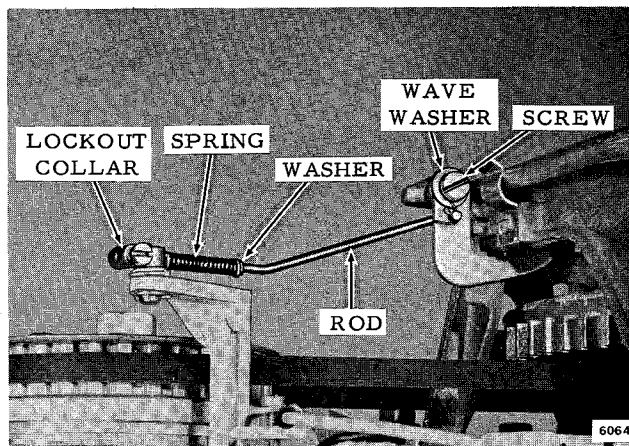

Figure 8-3. Starter Lock-Out Lever Mechanism
A lock-out lever linked to the gear shift prevents manual starter engagement while in forward or reverse gear. See Figure 8-3.
- Remove screw and wave washer to detach starter lock-out linkage from starter housing. See Figure 8-3.
b. Attach starter lock-out linkage with screw and wave washer. See Figure 8-3.
c. Check adjustment of lock-out linkage. Shift motor into forward gear and check to be certain locking lever fully engages the flywheel. Repeat the same operation in reverse gear. If adjustment is necessary loosen collar set screw and relocate collar as necessary. See Figure 8-3.